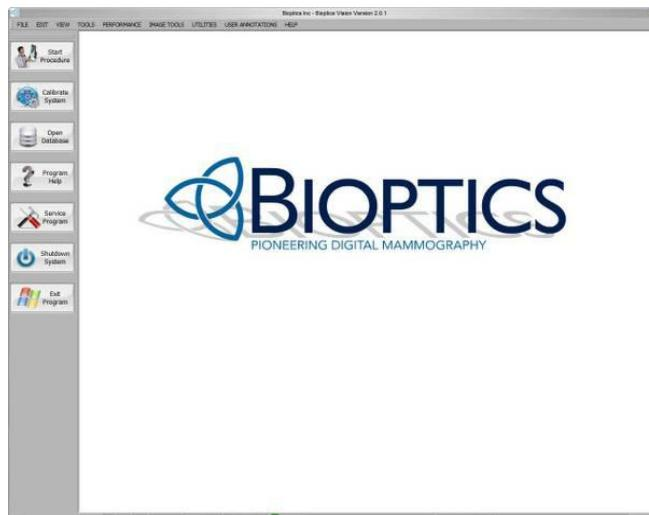

Figure 4.3.1
1. Go to the Vision "Start-up Screen" also known as the "Main Screen" (See *Figure 4.3.1*).